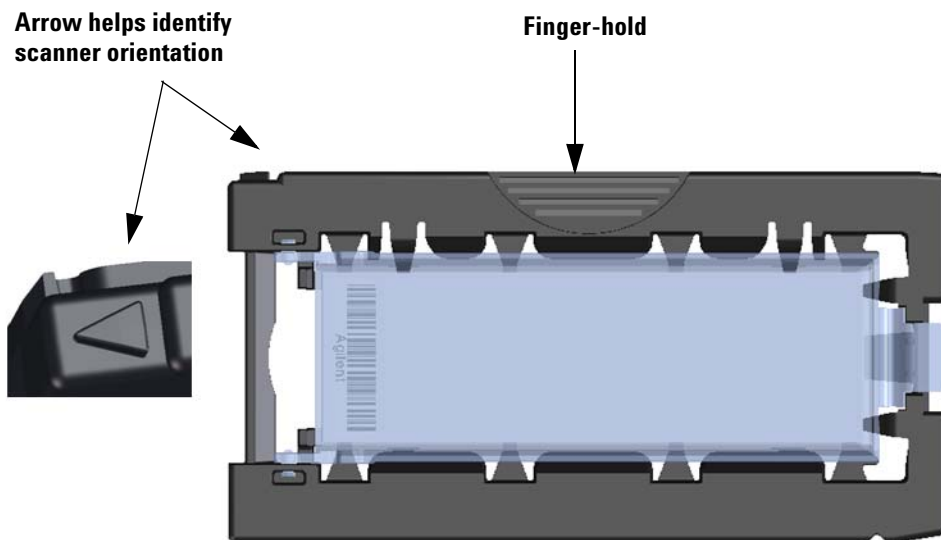

Figure 11 Slide holder helps you to insert slides correctly
- 2 Pick up the slide holder using the finger hold. The arrow on top of the slide holder points to the left when you pick up the slide holder correctly. See Figure 11.